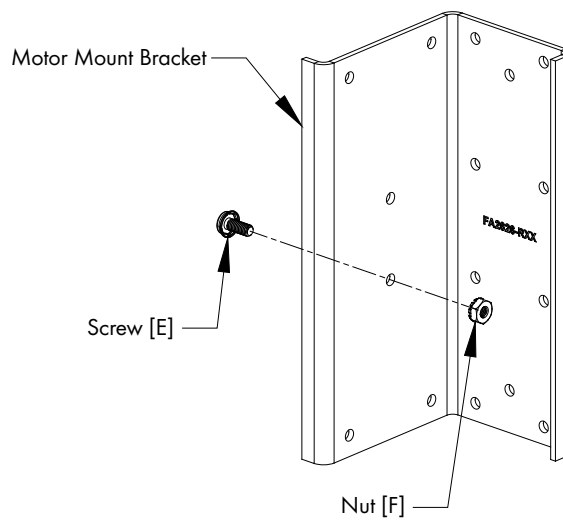

Figure 3
Locate the Motor Mount Bracket and install Screw [E] and Nut [F] in the lower middle hole on the side with (6) holes. Leave the Screw and Nut loose, so that the end of the screw is flush with the end of the nut. See Figures 3.